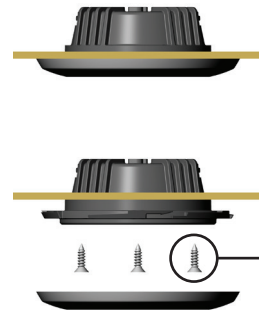

Figure 3
B. Screw-Mount Version (Small or Large): Twist and remove the trim ring on the Sigma and insert it into the cutout hole in the mounting surface. Fasten with three #4 flat head screws (see Figure 3). Place the trim ring over the light making sure the tabs of the trim ring engage with the openings in the housing. Twist the trim ring on to secure it.